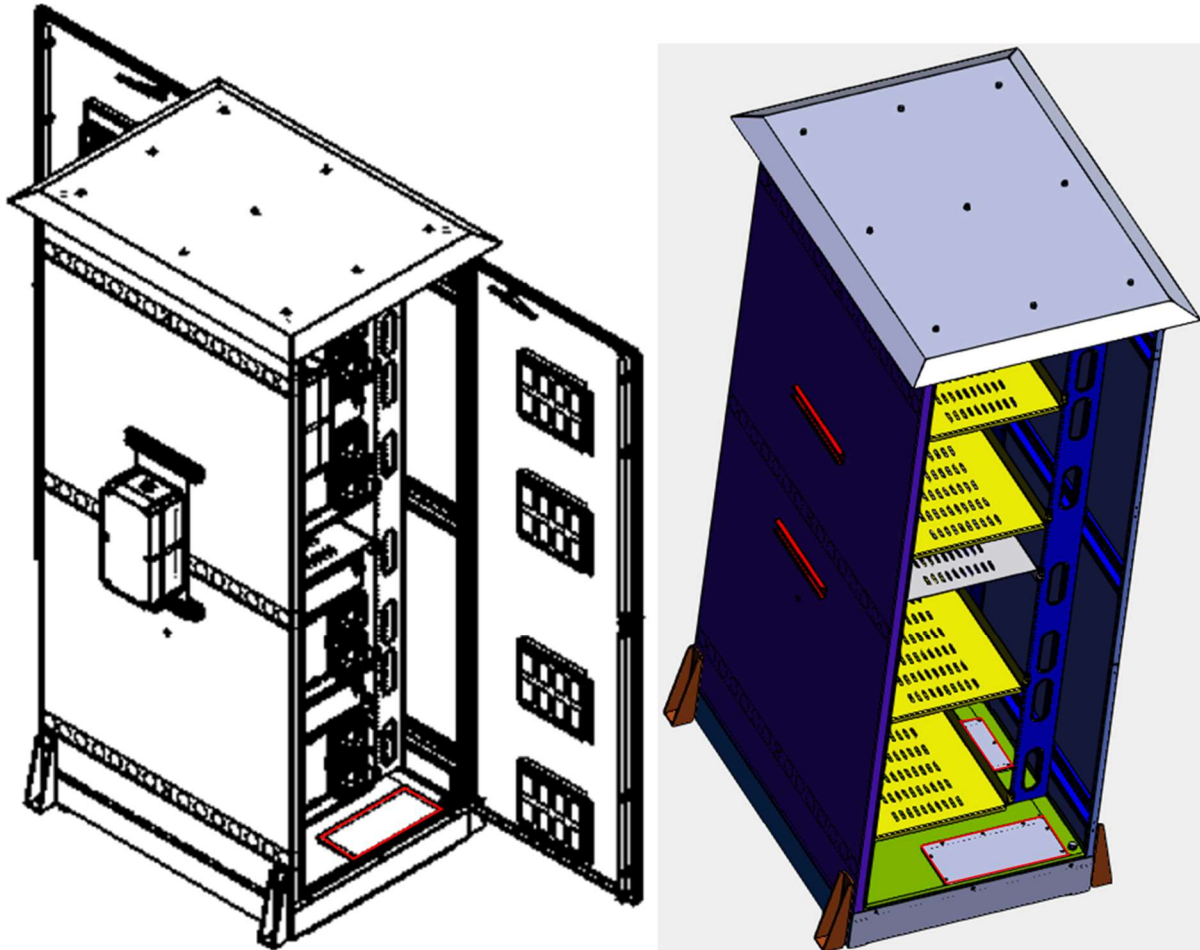
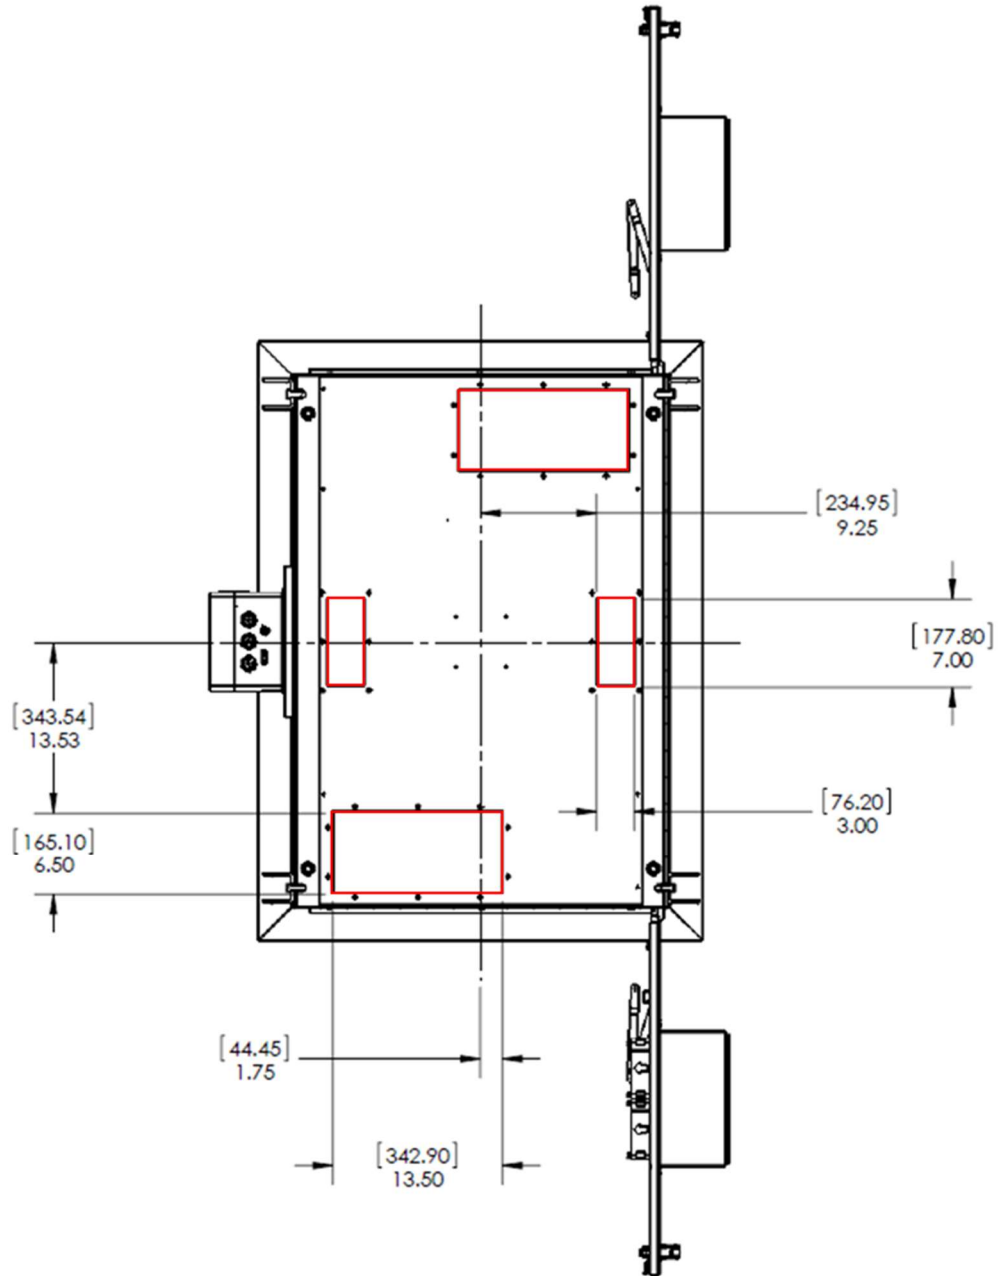

FIGURE 5: CONDUIT ACCESS (VIEW FROM INSIDE CABINET)
FIGURE 6: CONDUIT ACCESS (VIEW FROM BOTTOM OF CABINET)
- Areas depicted in red boxes in Figure 5 and Figure 6 are available for cable ingress into the cabinet.